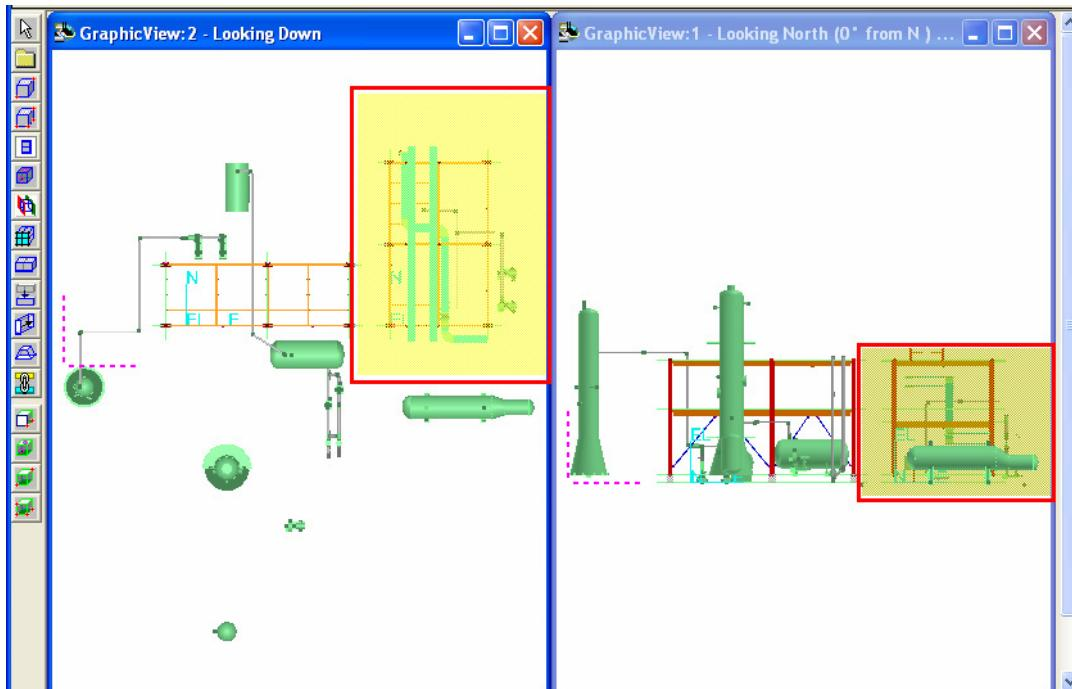

Figure 22: Output - After Placing the Two Drawing Volumes
11. Click the graphic view to place the second volume adjacent to the first volume, as shown in Figure 22.